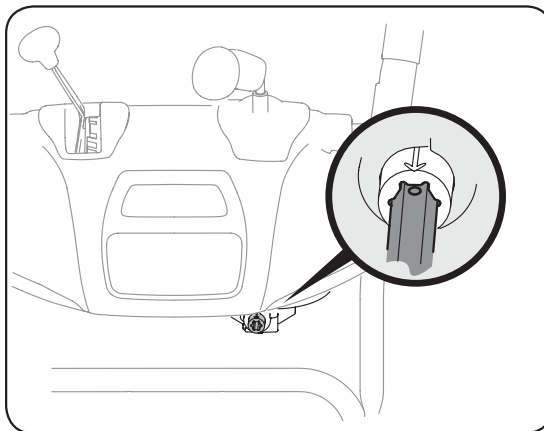
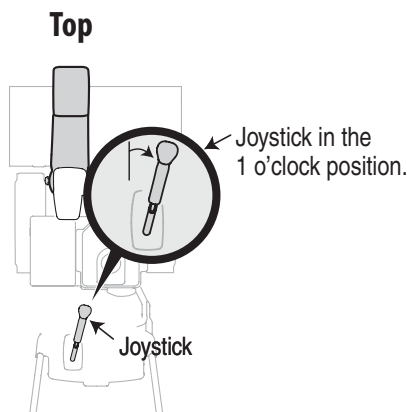

Figure 3-7
Figure 3-6
5. Rotate the joystick to 1 o'clock position (see Figure 3-6) so the silver arrow on the pinion gear faces upward (see Figure 3-7).
NOTE: The joystick must be angled slightly to the right as shown Figure 3-6 and the arrow on the pinion gear at the top to ensure full chute rotation.